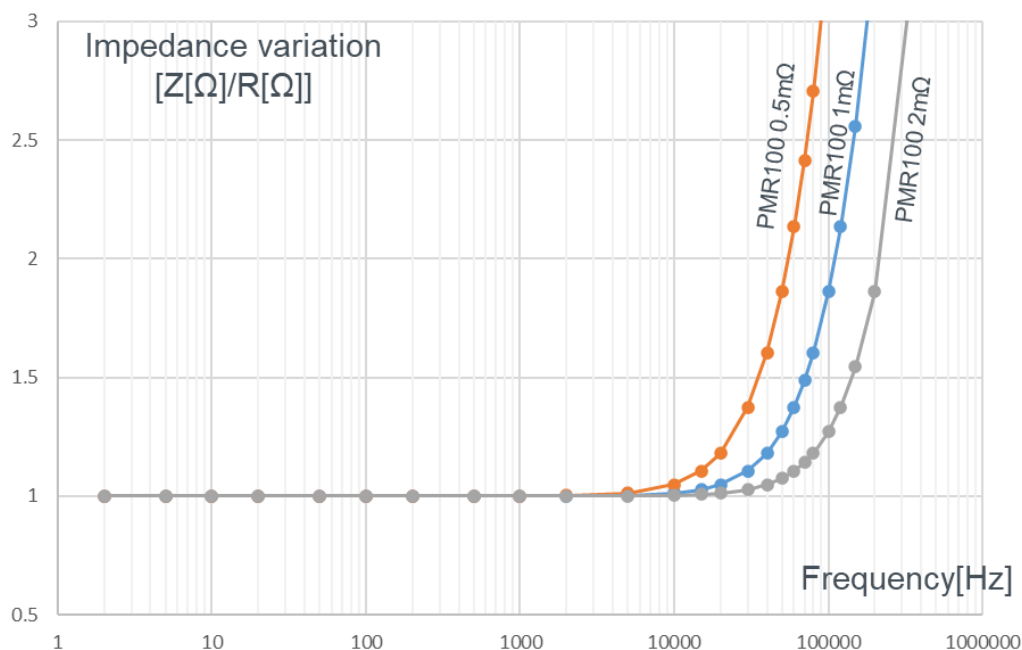

Figure 3. Frequency characteristics of impedance for PMR100 series (reference values)
As an example, Figure 3 shows the frequency characteristics of impedance for the ROHM PMR100 series. An impedance variation due to the parasitic inductance (L) appears in the frequencies above 10 kHz. The apparent shunt resistor value is changed, affecting the measurement precision. If these characteristics present a problem, it is necessary to select a shunt resistor with frequency characteristics that have no influence in the frequency bandwidth where you wish to perform sensing. Furthermore, it is desirable to set the input filter constants so that the frequency characteristics due to the parasitic inductance of the shunt resistor are canceled, preventing singularity from occurring in the frequency characteristics of the entire circuit.